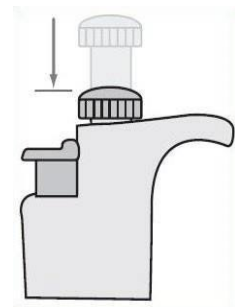

Figure 1.3b The second stop
- b. Use your thumb to press the plunger to the first stop position and then press down to the second stop (figure 1.3b).